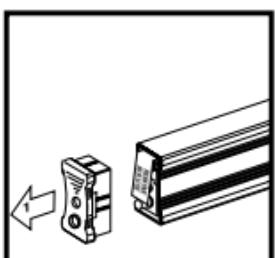

Figure 3: Removing the Laser End Cap
- Remove the Laser-End Endcap (Figure 3 below).